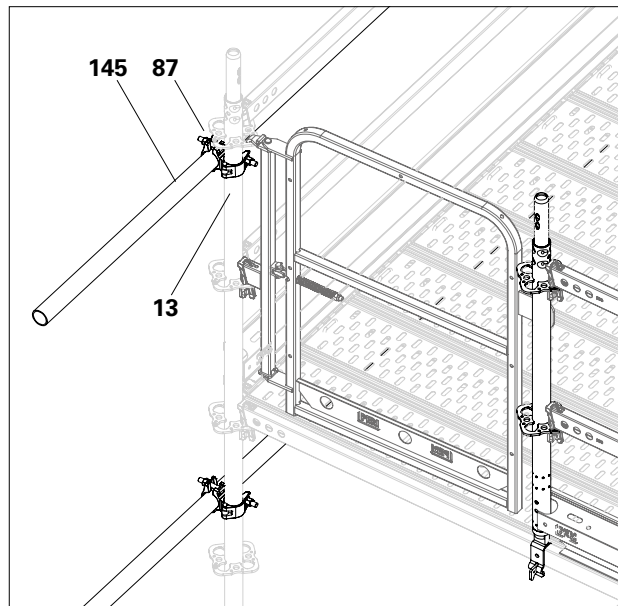
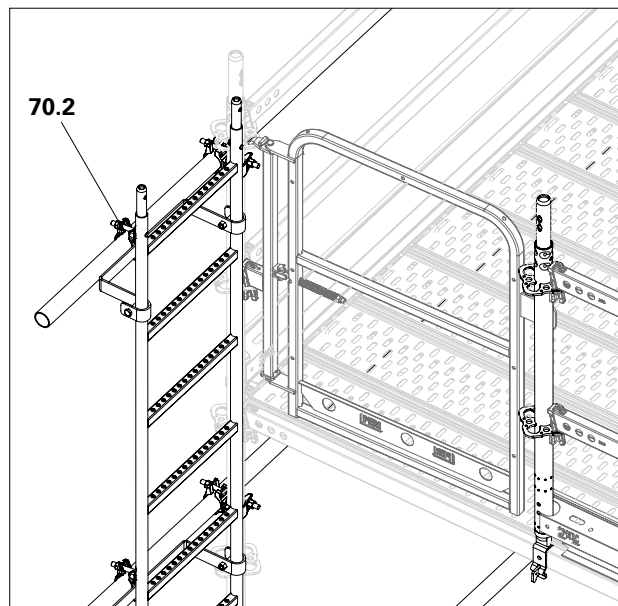

Fig. A9.08b
Fig. A9.08c
4. Screw the scaffolding tube (**145**) to at least 2 standards (**13**) with standard couplers (**87**). (Fig. A9.08c) Distance between standards must be equal to the cantilever at least. (Fig. A9.08b)
5. Screw the ladder connector to the projecting scaffolding tube with the tube coupling (**70.2**). (Fig. A9.08b)